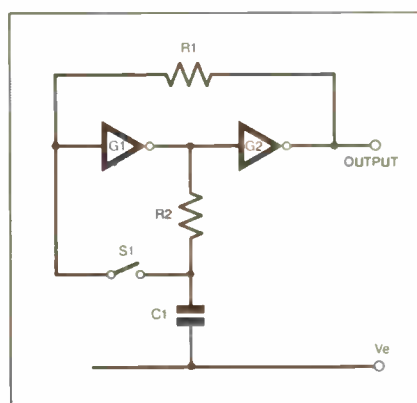

Fig.1. Circuit diagram for demonstrating the principle of the electronic toggle switch.
The circuit is based around a simple toggle switch built with two CMOS inverters as shown in a simplified form in Fig.1. If it is assumed that the input to the gate G1 is negative, its output will be positive, thereby causing the output of gate G2 to be negative. Feedback is taken from the output of G2 through resistor R1 to the input of G1 so that this state will be maintained indefinitely.
**W**HEN constructing certain types of test or measurement gear, it can be difficult to ascertain its accuracy without the help of a precision reference source. The circuit of Fig. 1 was constructed to help with setting up a frequency meter, and it provides a 19kHz TTL-compatible signal which is derived from an FM stereo pilot tone.